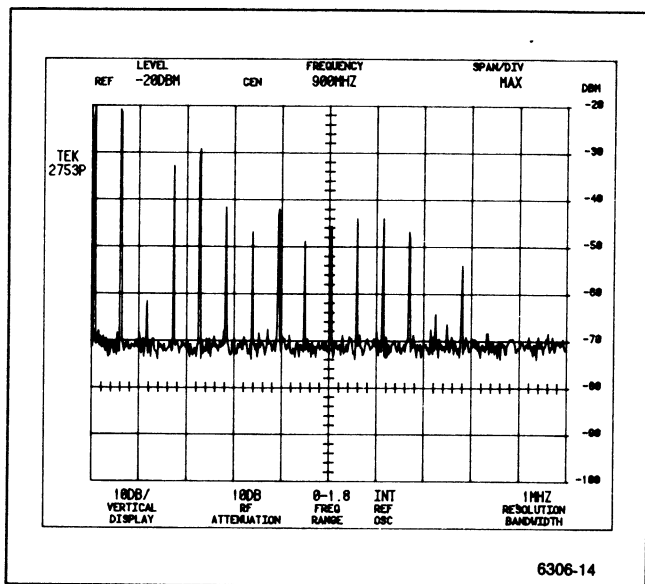

Figure 4-2. Typical display of calibrator signal in Max Span/Div.
h. Harmonics of the 100 MHz calibrator signal will be displayed as shown in Figure 4-2. To select 100 MHz center frequency, press the pushbutton sequence of FREQUENCY 100 MHz.